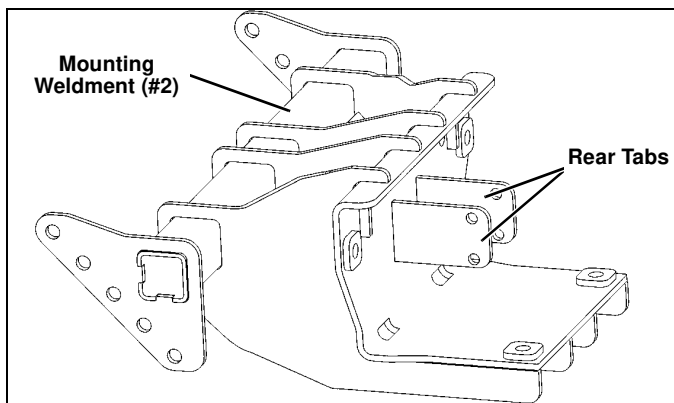

Figure 2
3. Slide the Mounting Weldment (#2) straight back into position, inserting the rear tabs into the square hole of the frame. (See Figure 2.)